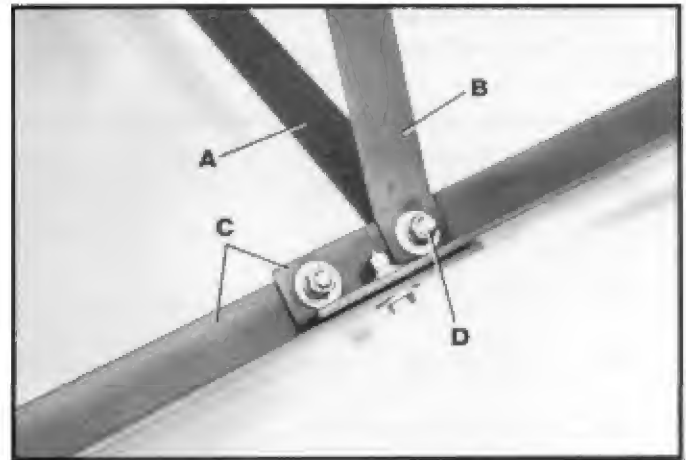

Fig. 12
IMPORTANT: Two support brackets (A) and (B) Fig. 12, must be assembled to a leg section (C) simultaneously for proper assembly.
1. Place one support brace (A) Fig. 12, on the outside of leg assembly (C), and brace (B) on the inside of leg assembly (C). Fasten support braces to leg assembly (C) with one 2 inch-long screw (D), two flat washers, lock-washer and hex nut. **NOTE:** Do not overly tighten hardware at this time. Adjustments will be necessary after unit is upright.